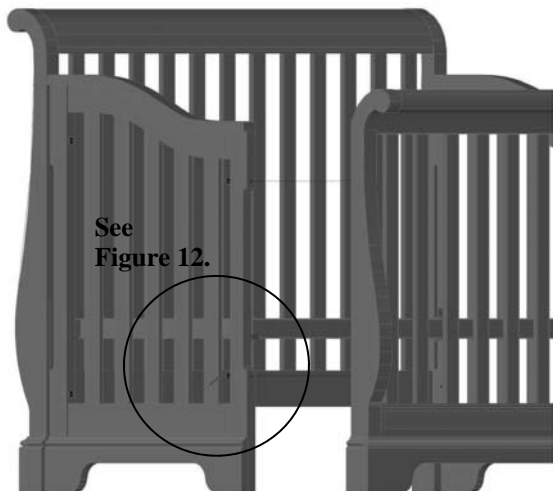

Figure 12.
- Loosen the (4) bolts attaching the footboard and remove the footboard. See Figure 12.